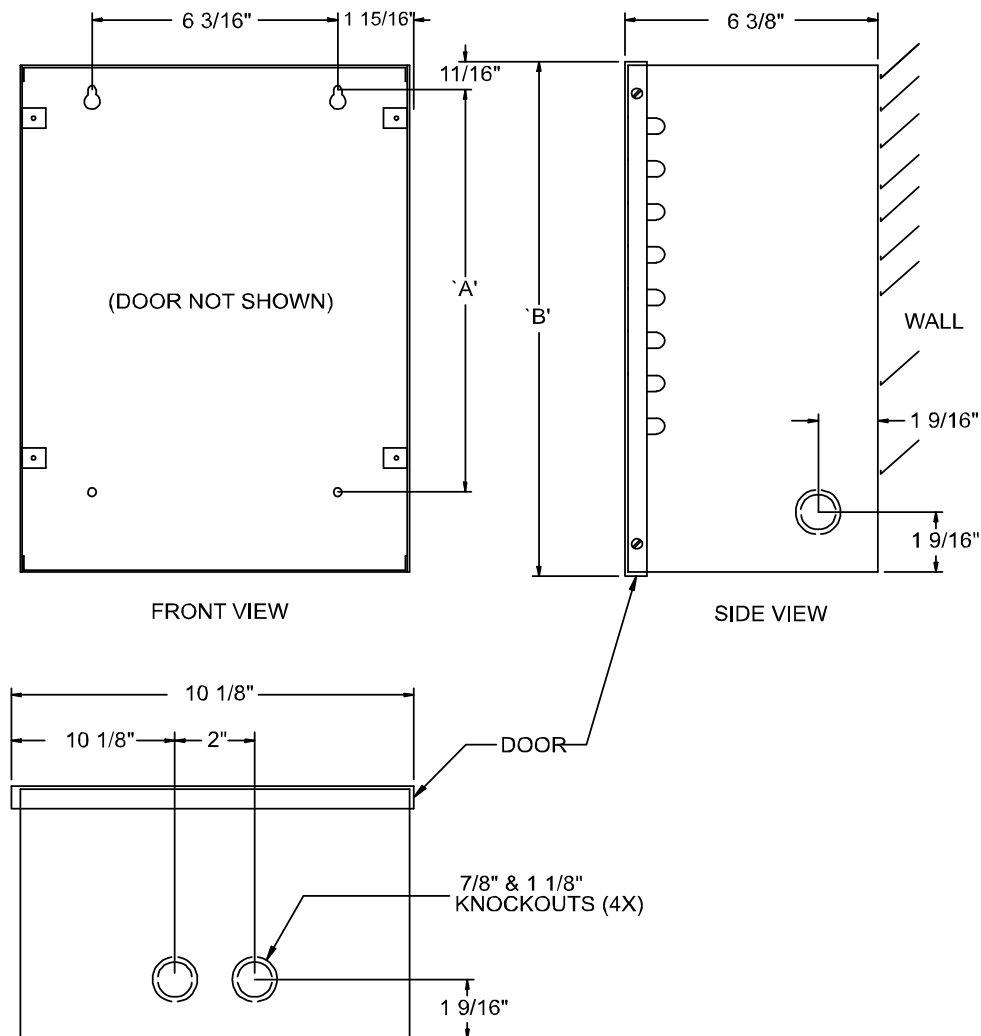

Figure 36. NSL Relay Cabinet
The TX3-8EC NSL Expander includes the 13 15/16 inch enclosure. The TX3-NSL-8M Relay Cabinet includes the 27 inch enclosure. The TX3-16EC NSL Expander includes the 27 inch enclosure. See Figure 36 and Table 3.
1. Using the back cover as a template mark the top two mounting hole locations 6 3/16 inches apart as shown in Figure 36.